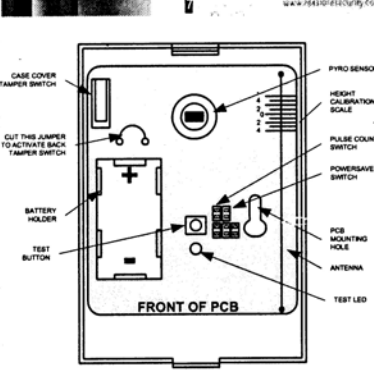

Fig 1: Front of PCB
Use only the specified 3V Lithium Battery. See FIG 1. Preferably one of the following brands and model #.
- 1) Remove the case locking screw and remove the front cover. Look at the front of the PCB, (FIG 1).
- 3) On the front of the PCB (See FIG 1), cut the jumper wire to activate the BACK TAMPER.